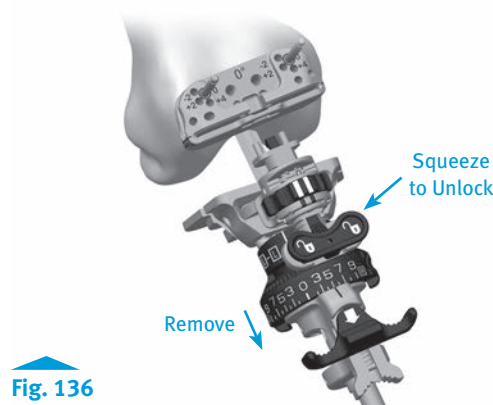

Fig. 136
- Squeeze the button on the Distal Femoral Resection Guide (**Fig. 136**) to release and remove the Femoral Valgus Alignment Guide and Distal Femoral Resection Guide assembly from the cutting head. The Modular T-Handle is used to remove the IM Rod, prior to the distal femoral resection.